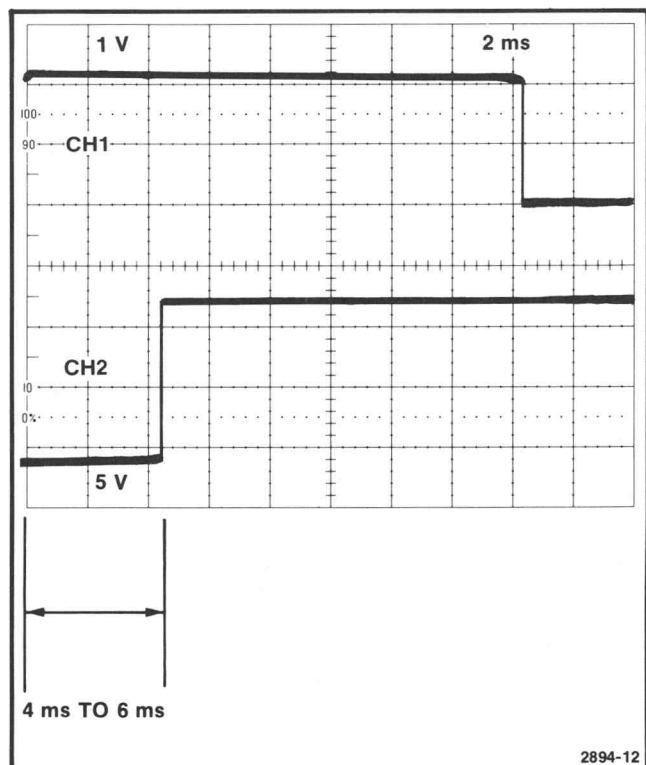

Fig. 4-13. QRS timer duration waveform.
e. **CHECK**—First visible positive going edge of CH 2 waveform is 4 to 6 ms from left edge of trace (see Fig. 4-13).